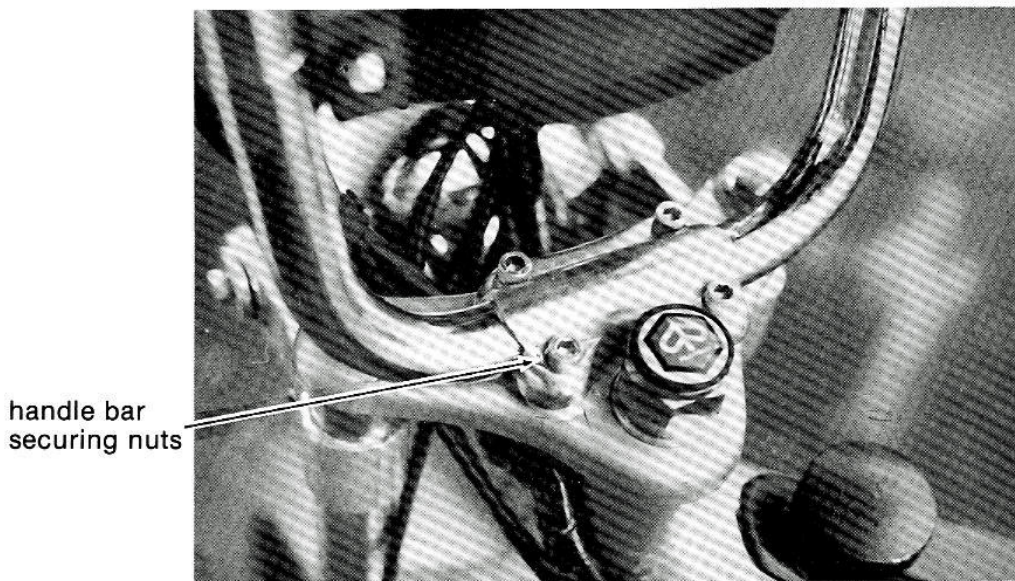

Fig. 4
- Step #3. Cross tighten screws to ensure even tension on the handlebars. (Fig. 4)